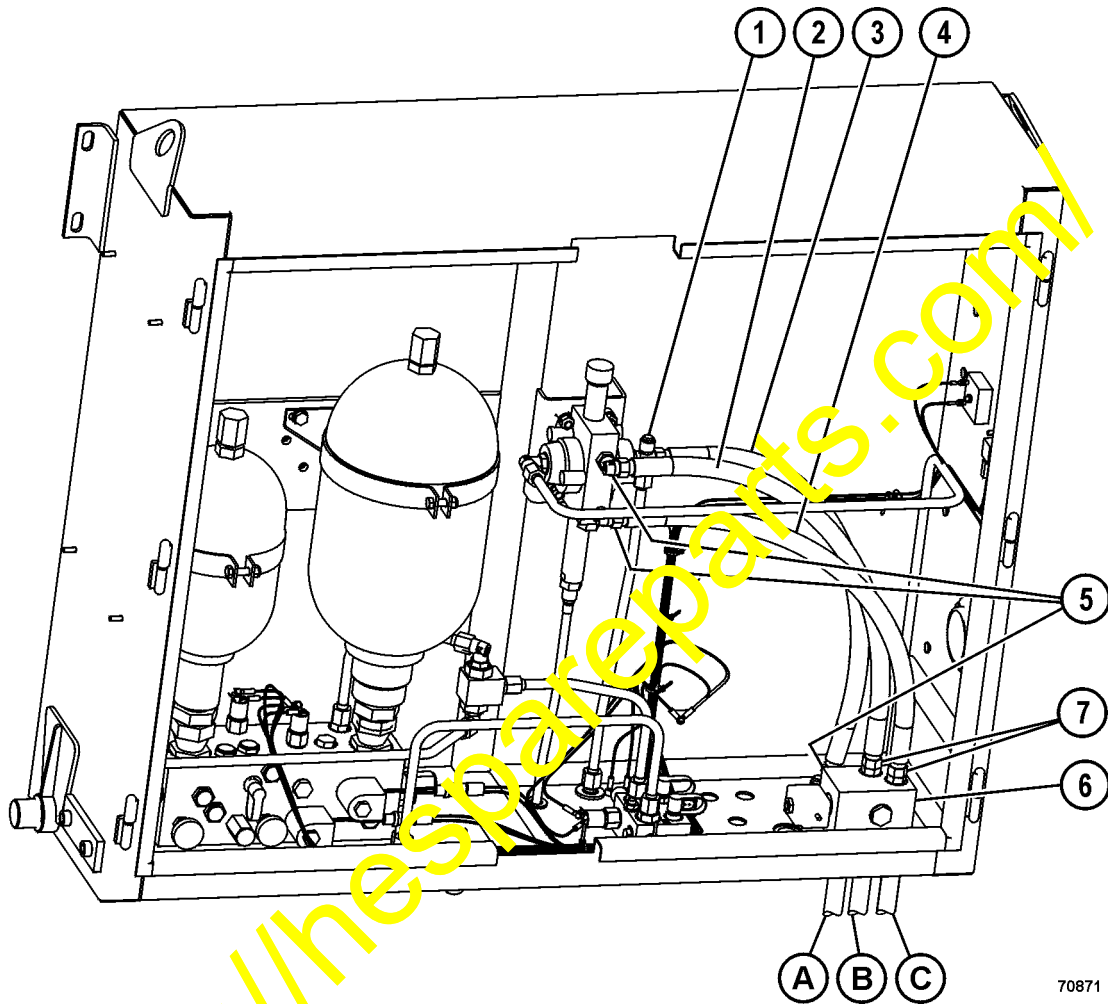
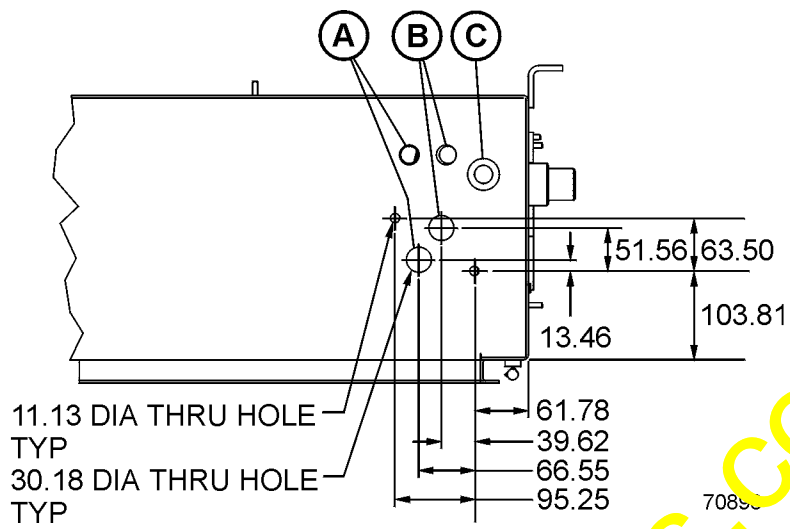

FIGURE 2. TYPICAL HYDRAULIC COMPONENTS CABINET WITH KIT (XK0141) INSTALLED
FIGURE 3. NEW HOLE LOCATION
4. Drill four holes in bottom of hydraulic components cabinet as shown in Figure 3, or on installation drawing EK2170.
5. Install four straight fittings (7, Figure 2) on the top and bottom sides of hoist pilot manifold (6). Install one 90 degree fitting (5) in the tank port on the side of hoist pilot manifold (6). Install hoist pilot manifold into hydraulic components cabinet with flatwashers and capscrews supplied in the kit.
7. Install two 90 degree fittings (5) on hoist pilot valve. Install hoses (2, 3 & 4) exactly as shown in Figure 2.
8. Connect hose (A, Figure 2) to new Location (A, Figure 3), and hose (B, Figure 2) to new Location (B, Figure 3) to the fittings on the hoist pilot manifold. The hoses must be in the same orientation as they were removed in step 3.